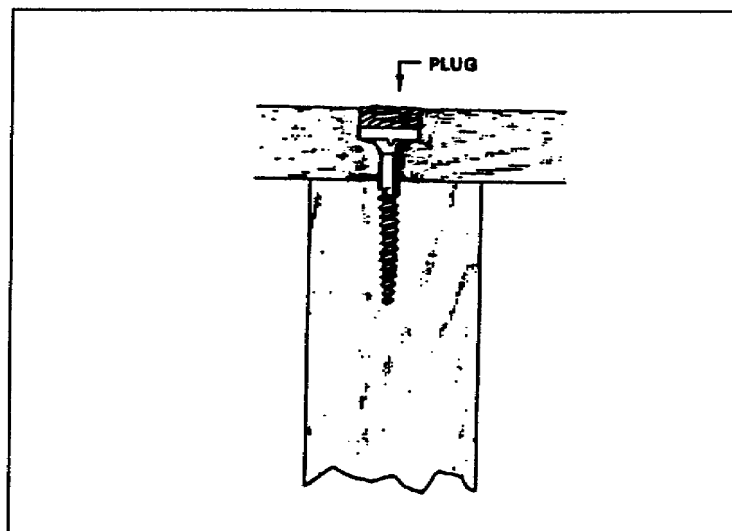

Figure 1-42. Screw-covering material
e. Covering Material. Both slotted and Phillips flathead screws are countersunk enough that a covering material can be used (Figure 1-42).